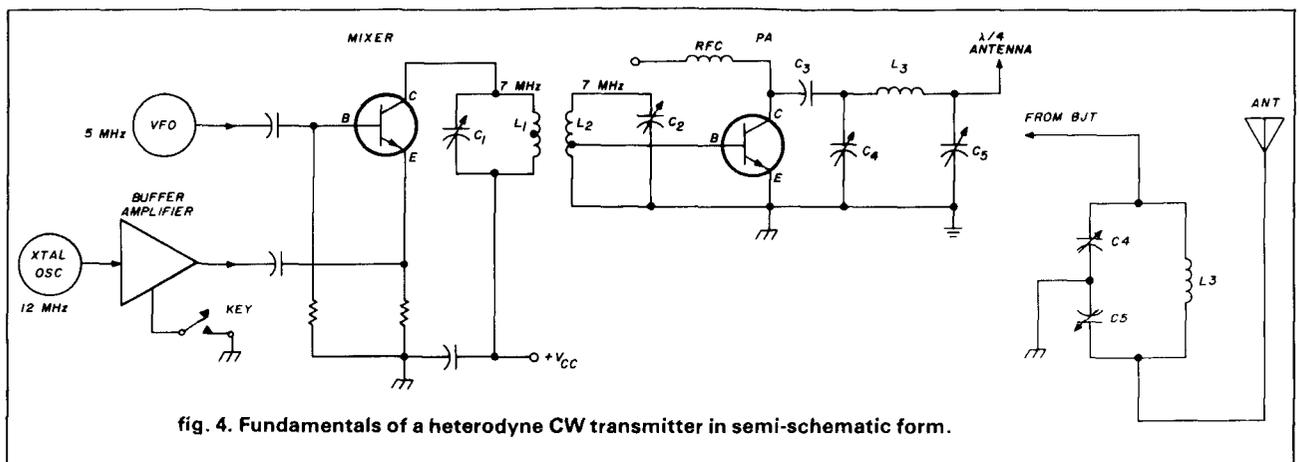

fig. 4. Fundamentals of a heterodyne CW transmitter in semi-schematic form.
frequency, (2) the second frequency, (3) the *sum* of the two frequencies, and (4) the *difference* of the two frequencies. A basic heterodyne CW transmitter is shown in semi-block form in fig. 4. The two frequencies to be heterodyned are developed by a 5-MHz variable frequency oscillator (VFO) and a 12-MHz crystal (XTAL) oscillator. Both of these frequencies are fed to the mixer BJT. In the collector circuit will appear the 5 MHz, the 12 MHz, a 17 MHz (sum), and a 7 MHz (difference) frequency. Since only one of these frequencies (7 MHz) is in any of the Amateur bands, L_1C_1 is tuned to that frequency. With both L_1C_1 and L_2C_2 tuned to 7 MHz they discriminate against transmission of all of the other frequencies. As a result, only the 7 MHz signal is amplified by the BJT PA.